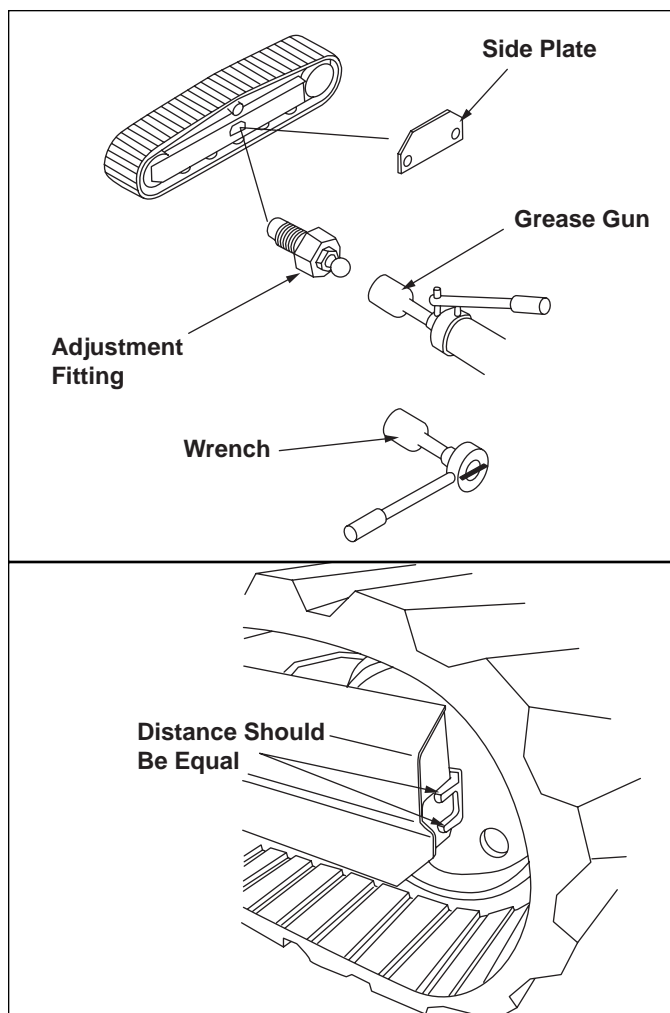

Figure 4-17. Track Adjustment
3. Remove the side plate from the left track to expose the adjustment fitting (Figure 4-17).
4. Using a grease gun, pump grease into the fitting until the idler wheel is equidistant as shown in Figure 4-17.